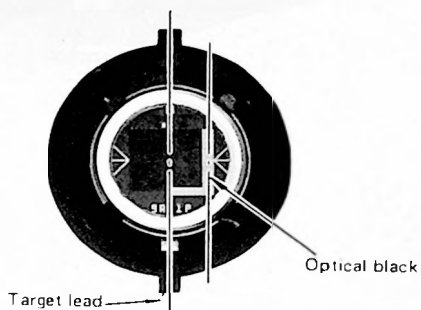

Fig. 3-7
2. Make sure that the vidicon is positioned correctly, i.e., the optical black on the vidicon is on the right and in parallel with the vertical line between the centers of the protruding part of the deflection coil when the target lead is positioned at the bottom side as shown in Fig. 3-7.